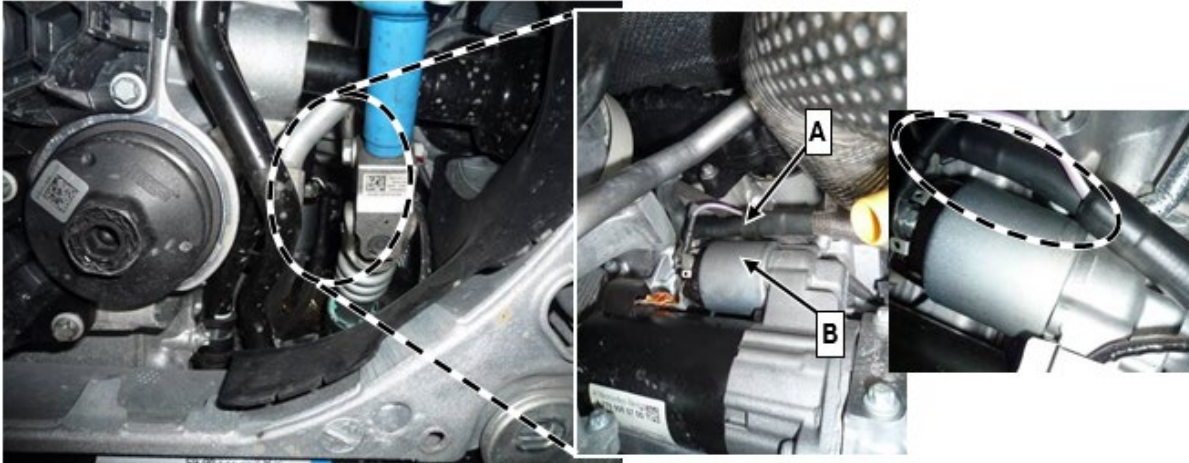

Figure 1
2. Check starter wiring harness, circuit 30 (**A, figure 1**) at starter.